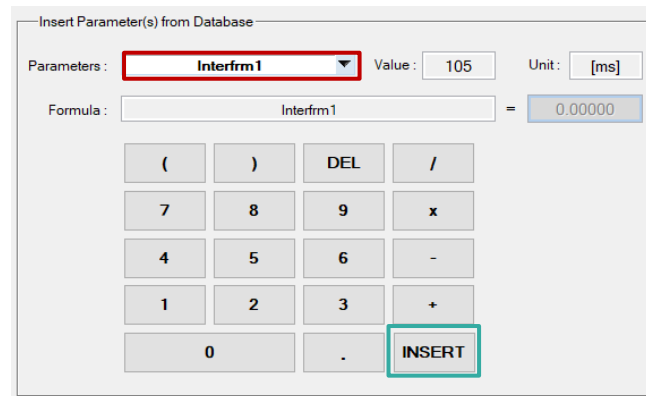

Figure 6. Numeric keypad for Expected Results creation
- (6) **Numeric keypad:** the numeric keypad, shown below in the Figure 6, allows you to enter the value of your choice (Function Code Value, Value, Tolerances...).